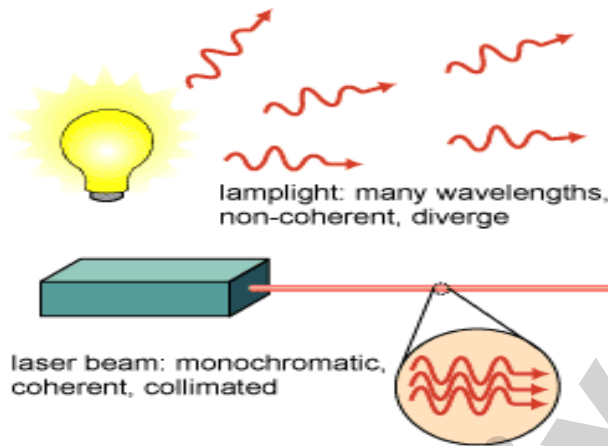

Figure 3
(D) A **laser** (from the acronym *Light Amplification by Stimulated Emission of Radiation*) is an optical source that emits photons in a coherent beam. Laser light is typically near-monochromatic, i.e., consisting of a single wavelength or color, and emitted in a narrow beam. This is in contrast to common light sources, such as the incandescent light bulb, which emit incoherent photons in almost all directions, usually over a wide spectrum of wavelengths (see fig 3).